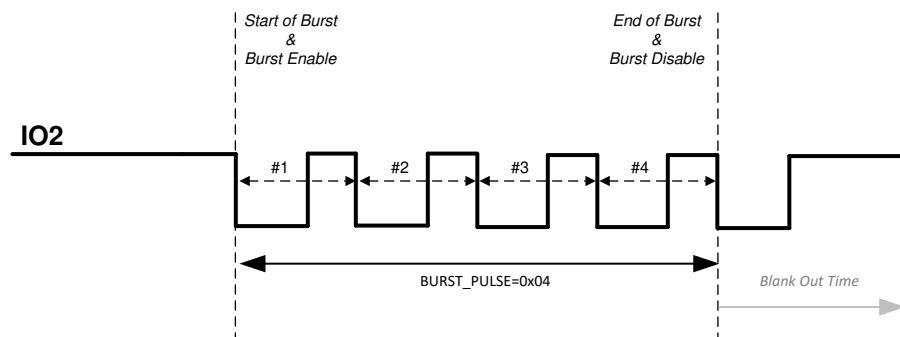

图 18. IO_MODE 3 Description
- **IO_MODE = 3:** In this mode, burst enable and start of burst are both triggered by the falling edge of IO2. TI recommends that IO2 pin is kept pulled up to VDD for this mode. The device then expects a clock at IO2 pin to generate pulses on the OUTA/OUTB pins as shown in 图 18. The number of pulses are counted by counting falling edge to next falling edge transitions on IO2 once the start of burst is triggered. End of burst sequence is signaled when the number of pulses defined in BURST_PULSE are sent. After end of burst, a blank-out timer interval defined by the DRV_PLS_FLT_DT register is started to prevent triggering of a new start of burst in the event if the IO2 pin is still toggling. After the start of burst, the state of OUTA and OUTB pins are determined by IO1 and IO2 pins as shown in 表 22.